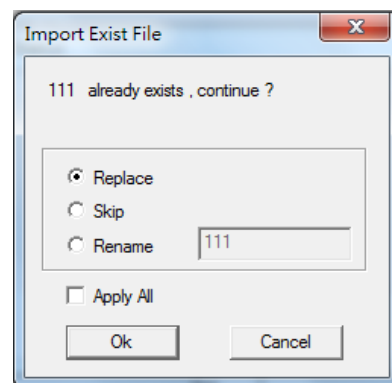

Fig. 3.1.02
2. Select the items and click “...” to select the folder user want to export or import, then click “Import” or “Export” button. If the name of lens has already existed, the system will pop a warning dialog box, see Fig.3.1.02. Please notice that “*Jen (Lens cor. File) is only used for version 2.4, so it can only be import.